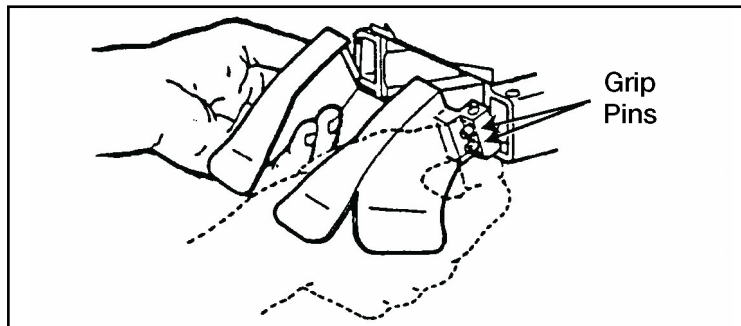

Figure 071-030-0001-1. Removal of feed throat assembly
- a. Place the safe/fire switch in the safe (S) position. Ensure the bolt is forward.
- a. Remove the feed throat assembly (figure 071-030-0001-1). Squeeze the two sets of grip pins together and pull them straight out.